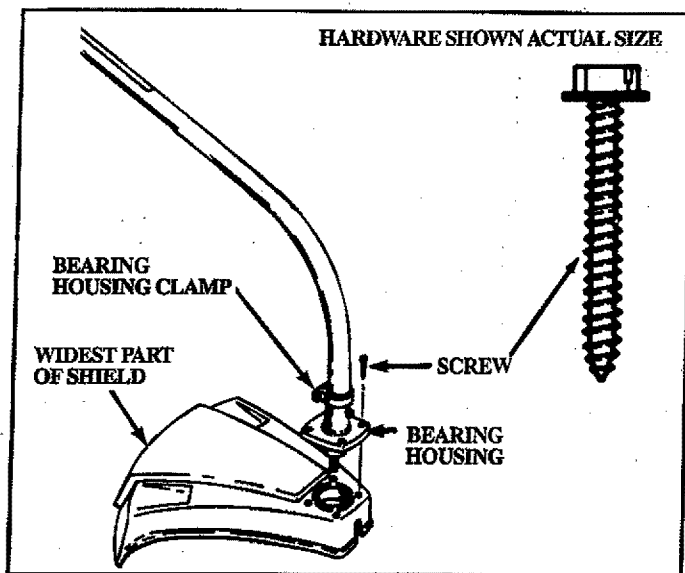

Figure 1
### 1. SHIELD – Figure 1
Failure to install the shield in the position shown in Figure 1 can result in serious injury to the operator. The shield must be centered under the bearing housing clamp with the widest part of the shield directed toward the engine.
- Align the Shield on the Bearing Housing with the Shield centered under the Bearing Housing Clamp with the widest part of the shield directed toward the engine. Figure 1. Align screw openings.